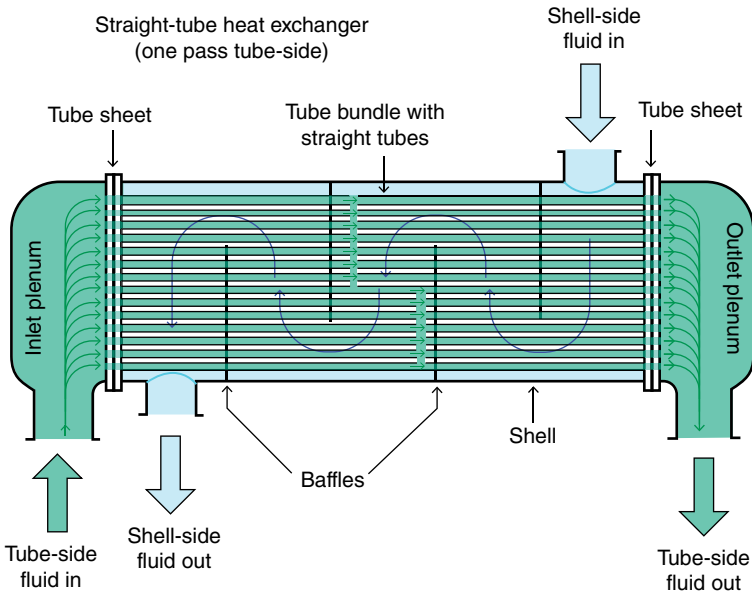
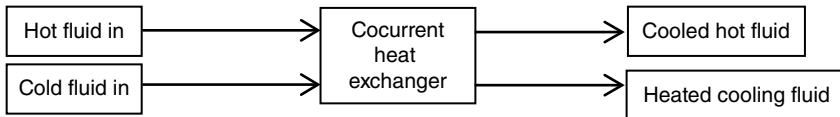

Figure 8.1 Conventional shell and tube heat exchanger. Source: Pedlackas, https://commons.wikimedia.org/wiki/File:Straight-tube_heat_exchanger_1-pass.PNG.
Figure 8.5 Flows in a cocurrent heat exchanger.
- 1) Shell and tube exchangers. These types of exchangers are the workhorse of the chemical industry. An illustration of such an exchanger, in a typical countercurrent flow design, is shown in Figure 8.1.
1) It is possible to configure a heat exchanger in two different ways usually described as cocurrent (sometimes referred to as parallel flow) and countercurrent (sometimes referred to as counterflow). An example of a typical countercurrent exchanger was shown in Figure 8.1. In cocurrent flow, both hot and colder streams enter at the same end of the heat exchanger as shown in Figure 8.5.